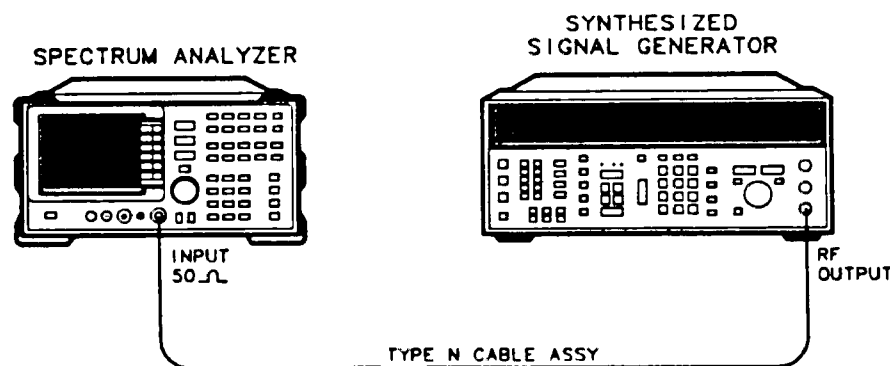

Figure 3-9. Residual FM Test Setup
1. Connect the equipment as shown in Figure 3-9.